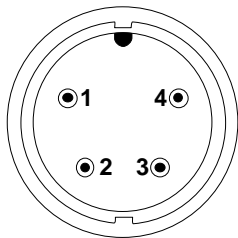

Figure A-2. RF Detector Cable Connector Pin Orientation
- Step 4** Connect the DMM leads between pins 1 and 2 of the rf detector cable connector (Figure A-2). Measure the resistance value, which is the maximum resistance of R1 (approximately 40.5 kΩ is typical). Record this value; it will hereafter be referred to as “R_T”.